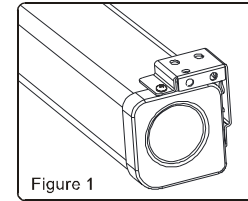

Figure 1
2. There are two ways for wall brackets to fix on the housing. As you can see on the figure 1, which is our normal fixed way (namely factory set). While the other fixed way is to interchange the left and right wall brackets, and then fix onto the housing (namely functional installation way, as figure 2).
Using a tape measure, measure the distance between the two keyholes on the casing (Figure 1). According to the measurement, use the drill to drill identical holes of the appropriate size on the wall (use a smaller drill bit than the actual screws) and ensure that it is level (Figure 2 & 3). Screw in the appropriate screws, either $\varnothing 5 \times 40$ by itself for wood walls or with anchors for drywalls, leaving enough space at the end to hang the casing (Figure 4). To ensure that the screen is level, use a level to check (Figure 5).
Using a tape measure find out the distance between the two keyholes on the casing (Figure 1). According to the measurement, use the drill to drill identical holes of the appropriate size on the ceiling and ensure that it is level (Figure 2 & 3). Screw in the hook screws (not provided), and lift the screen into the hook screws to hang (Figure 4). To ensure that the screen is level, use a level to check (Figure 5).
Using a tape measure, measure the distance between the two keyholes on the casing (Figure 1). According to the measurement, use the drill to drill identical holes of the appropriate size on the wall (use a smaller drill bit than the actual screws) and ensure that it is level (Figure 2 & 3). Screw in the appropriate screws, either 5 x 40 by it self for wood walls or with anchors for drywalls , leaving enough space at the end to hang the casing (Figure 4). To ensure that the screen is level, use a level to check (Figure 5).